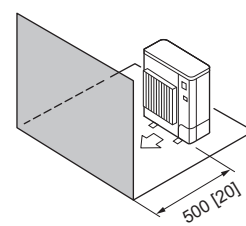

Fig. 2-9
- Obstacles at front only (Fig. 2-9)